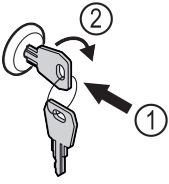

Fig. 142
- ▶ Insert the key. Fig. 142 (1)
- ▶ Turn the key clockwise by 90°. Fig. 142 (2)